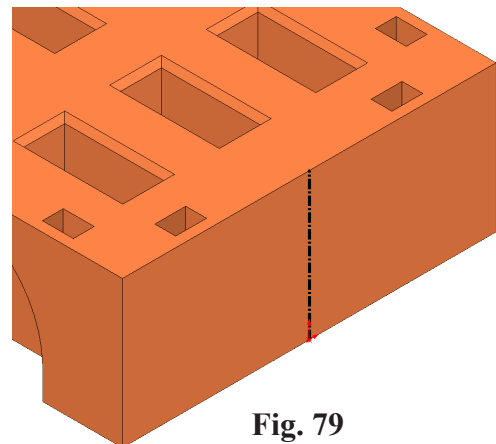

Fig. 79
Step 4. Sketch **vertical centerline up from Origin** , **Fig. 79**.